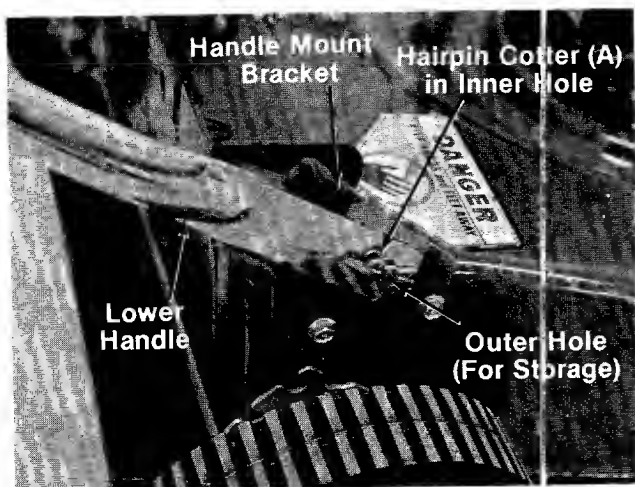

FIGURE 2.
- A (2) Hairpin Cotter
- B (2) Curved Carriage Bolts
- C (2) Lock Washers 5/16" I.D.
- D (2) Hex Nuts 5/16-18 Thread
- E (2) Cable Ties
3. Place bottom hole in lower handle in position over weld pins in handle mount brackets on deck. Make certain the instruction label on the lower handle can be read from the operating position. Secure by placing two hairpin cotters (A) in inner hole on weld pins. See figure 2.